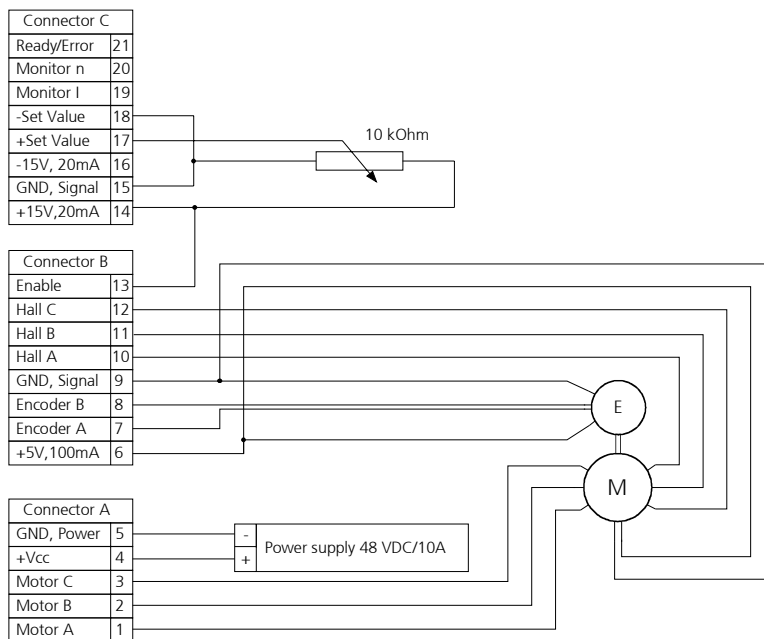

Figure 13 Connection plan with controller S-HV and micro annular gear pump mzs-11508
1. Connect the motor cables with an motor control unit (see Figure 13).